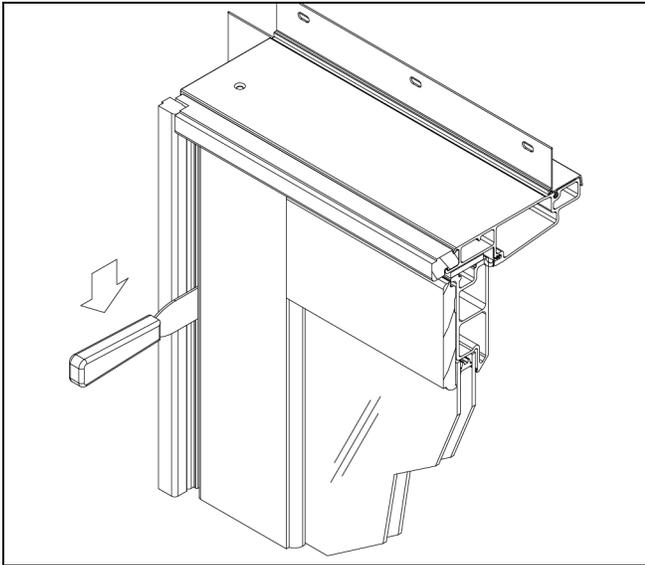

Figure 2 Interior View
1. To remove the stationary panel insert a stiff putty knife between the stationary panel and jamb toward the top of the panel as shown in Figure 2. Slide the knife down until it hits a stationary panel clip. Once the